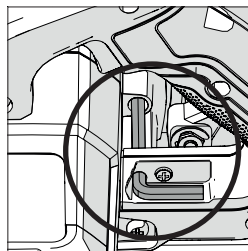

Fig. 1
- Locate the supplied Blade Change Hex Key which is housed in the onboard storage facility **(Fig. 1)**